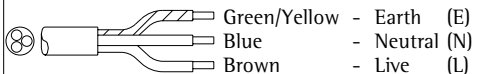

fig. 5
- (fig.5) In case of 220V-240V 1 phase with fitting connection.
- (fig.5) In case of 220V-240V 1 phase (3-core cable).
The following remarks apply to figure 5:
The 3 core main cable (fig.5) has the following wiring code: